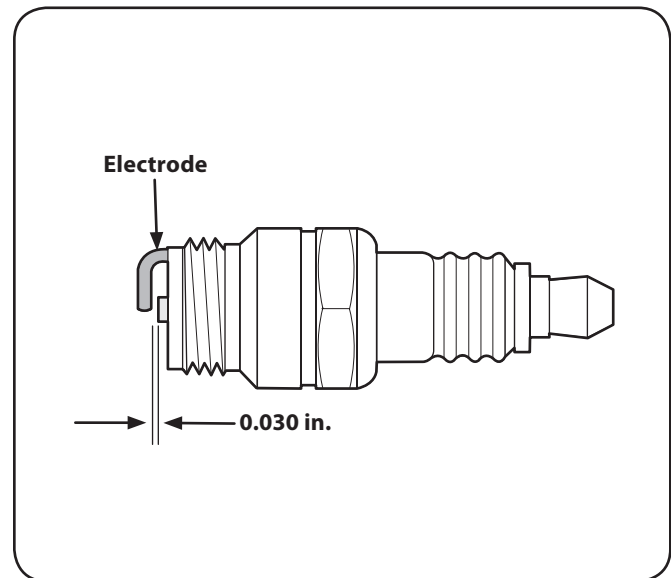

Figure 6-5
3. Measure the plug gap with a feeler gauge. Correct as necessary by bending side electrode. See Figure 6-5. The gap should be set to 0.030 in.